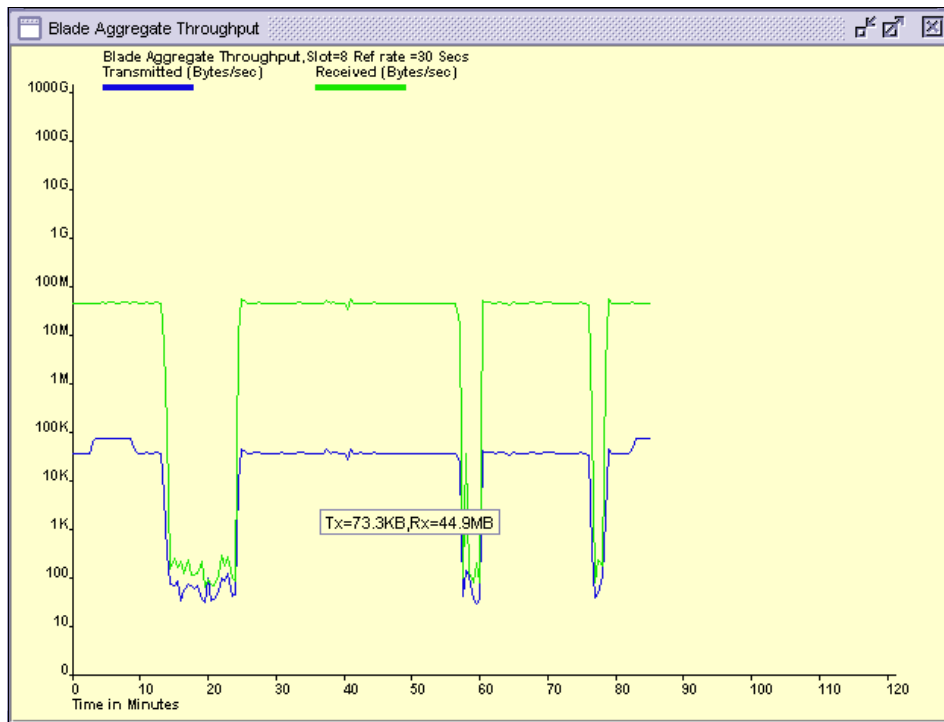

Figure 16-11 Blade Aggregate Throughput for slot 8
- The other 50 MBps is received by blade number 8 (see Figure 16-11).
- In Figure 16-11 you can see: